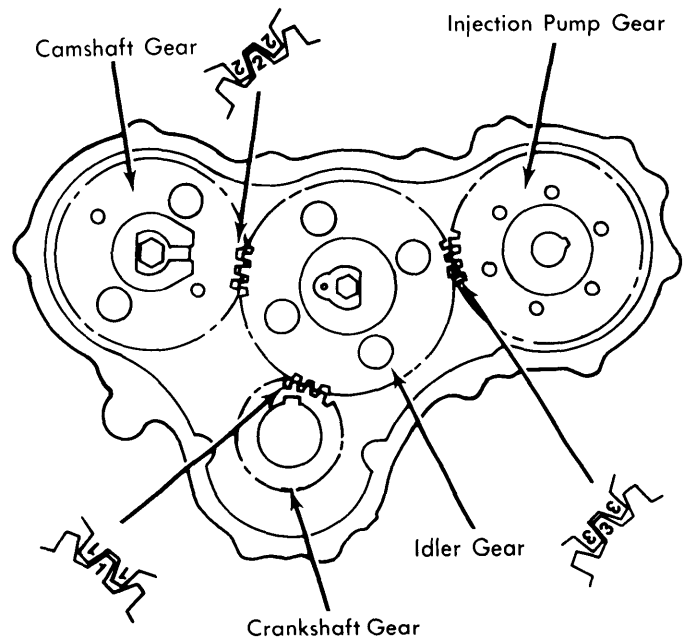

Fig. 12 Aligning Timing Gear Marks
**Installation** — 1) Be sure No. 1 cylinder is at TDC, and install idler gear with alignment marks lined up on crankshaft gear. Install thrust plate and hold down bolt. Tighten to specifications. Install camshaft gear and thrust plate with alignment marks lined up with marks on idler gear. Install injection pump so that alignment marks on pump gear match alignment marks on idler gear. See Fig. 12.